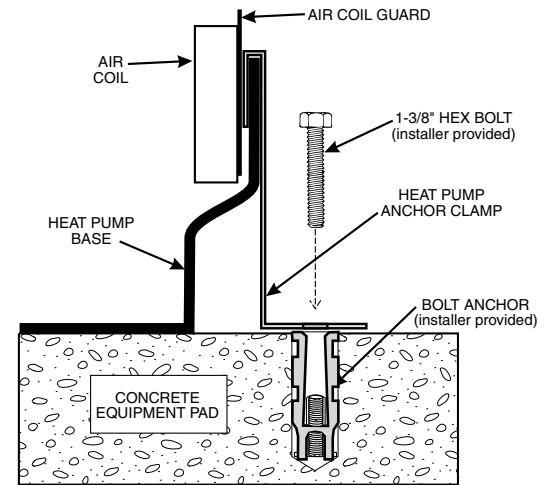

Figure 5.
4. Fit the hook of each clamp over the lip on the base panel of the heat pump. The hook should fit between the lip of the base panel and the evaporator coil guard, see **Figure 5**.
8. Position the anchor clamps so that the holes in the clamps are over the bolt anchors. Be sure that the clamp hooks are over the lip of the heat pump base, see Figure 5.